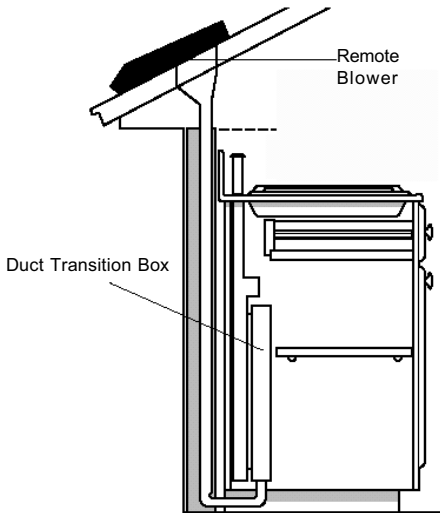

Fig. 3
F. Investigate potential ductwork routes and choose the shortest possible route from the unit to an outside wall or to the roof via an inside wall and attic. For guidance, typical ducting installations are shown in figures 3 through 6. Installation in island locations will require under floor ducting. Peninsula locations usually require ducting laterally through cabinets or under cabinet toespaces. Consider potential interferences to ductwork from building framing (floor joists, wall studs, etc.) and utilities (electrical wiring, water, gas, or sewer lines, etc.).
Figures 3 through 6 are examples of possible ducting